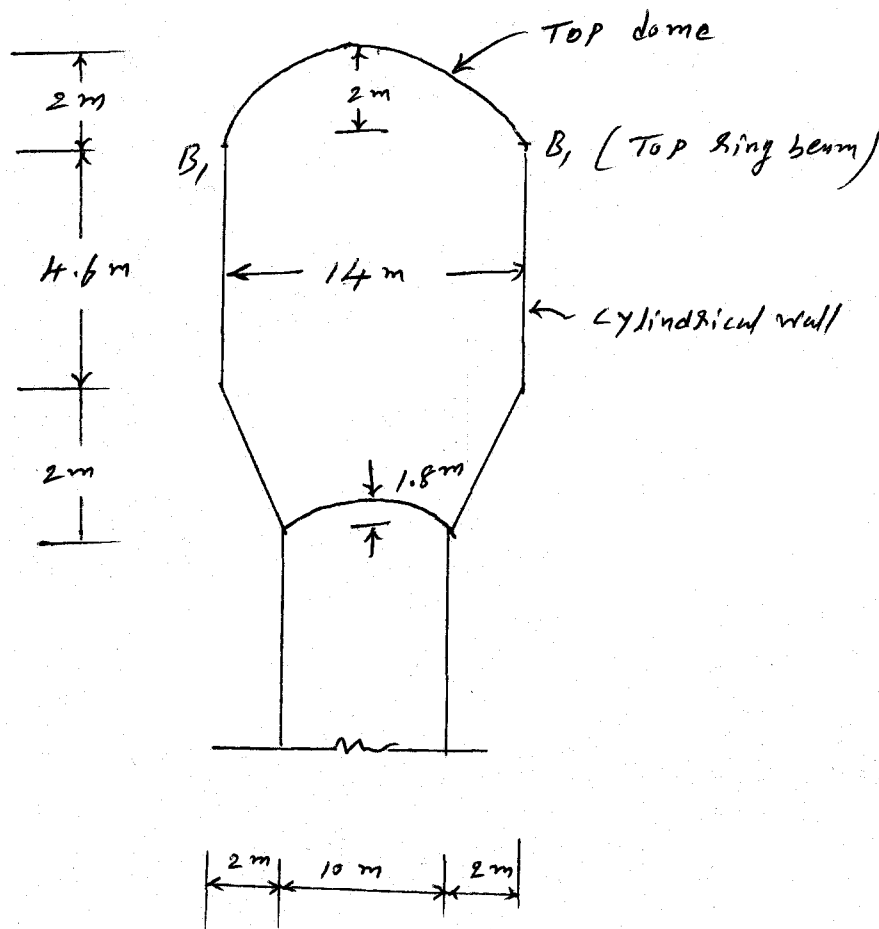

Fig. 2
- 6 For an intze tank container shown in fig.2. 15